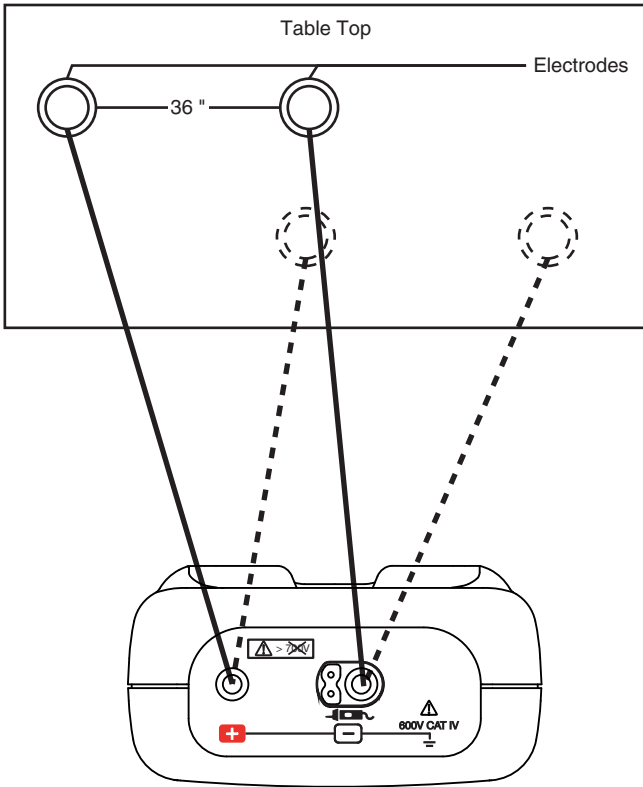

Figure 5
- Resistance from electrode to electrode (Figure 5): Measured value: $\geq 1\text{M}\Omega$